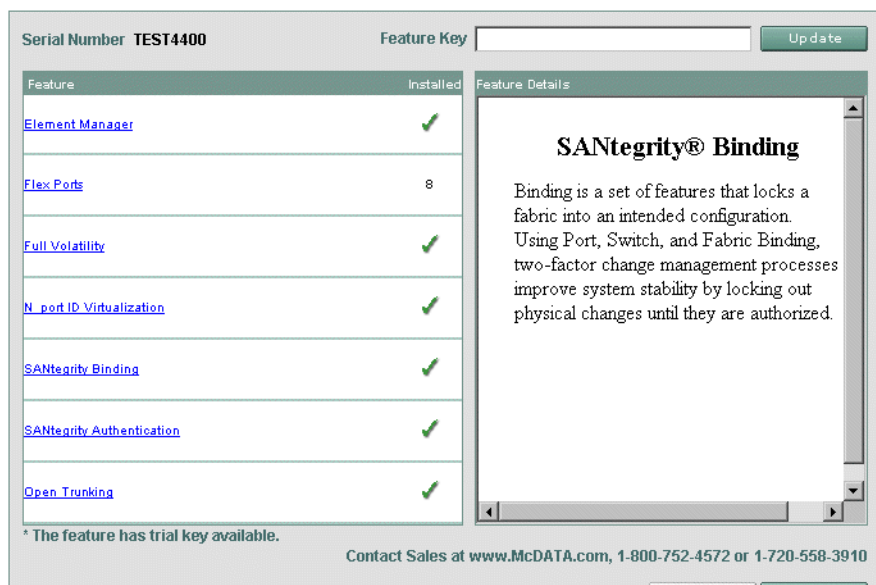

Figure 2-14 Maintenance Feature Installation View
1. Select *Optional Features* from the *Configure* menu (*Configure>Optional Features*) **or** *Security* menu (*Security>Optional Features*). The *Maintenance Feature Installation View* appears (Figure 2-14).